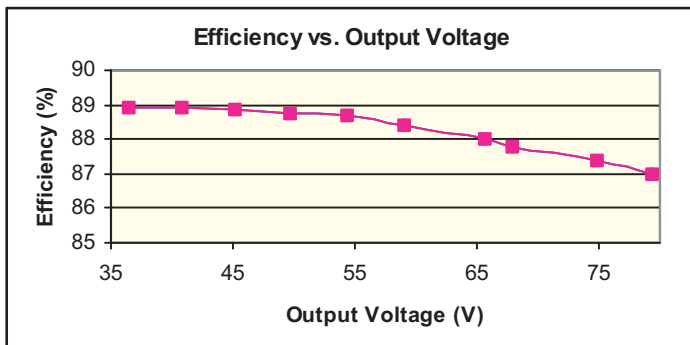
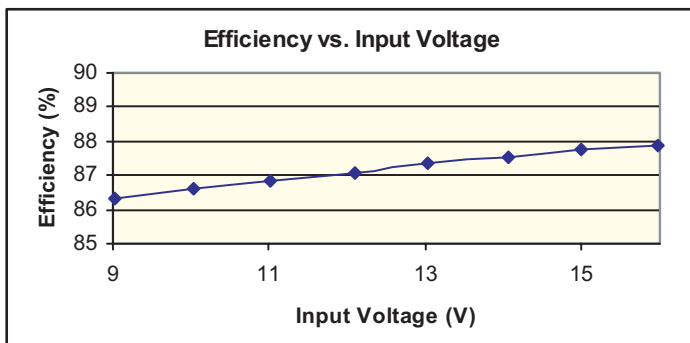

Fig. 1. Efficiency vs. Output Voltage
Fig. 2. Efficiency vs. Input Voltage
1. Efficiency: The efficiency of the converter at various LED string voltages are shown in Fig.1 (measured at the nominal input voltage of 24V). Fig.2 shows the full load efficiency of the converter at varying input voltages. The minimum efficiency of 86% for the converter occurs at 9V input and full load output.